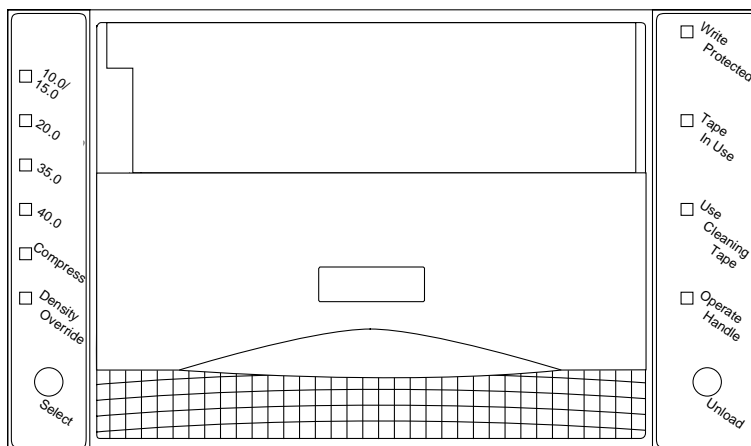

FIGURE 2-1 DLT8000 Front Panel
The tape cartridge has a write-protect switch (FIGURE 2-1) to prevent accidental erasure of data. This switch can be set prior to or after inserting the tape cartridge into the tape drive.
- 1. Make sure that the Operate Handle LED is on (FIGURE 2-1).**
- 2. Lift the cartridge insert/release handle (FIGURE 2-1).**
1. Press the Unload button (FIGURE 2-1).